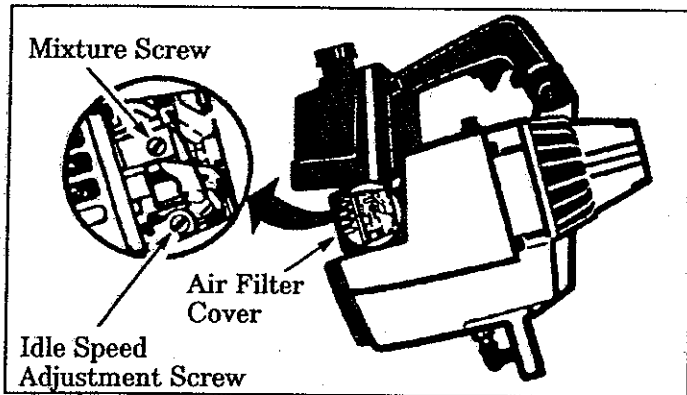

Figure 26
- a. Turn the Mixture Screw (Figure 26) clockwise until it stops. *Do not turn the screw until it is tight as damage to the needle seat can occur.*
- b. **If the engine does not accelerate smoothly**, turn the Mixture Screw (Figure 26) counterclockwise ← a small amount (no more than the width of the slot in the adjusting screw).
3. Turn Mixture Screw (Figure 26 ) very slowly clockwise  $\rightarrow$  until engine speed is reduced.